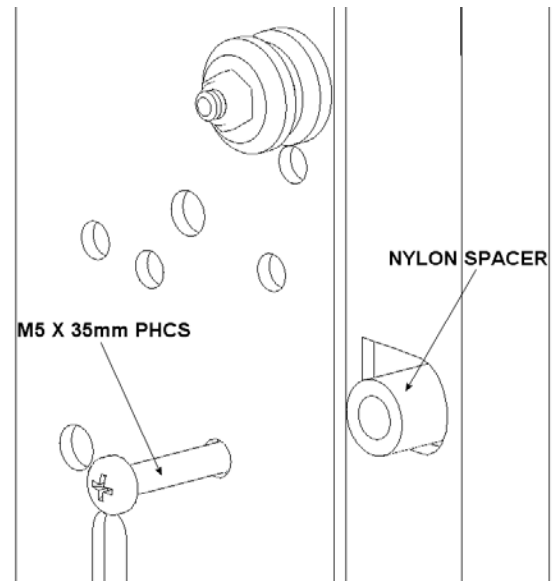
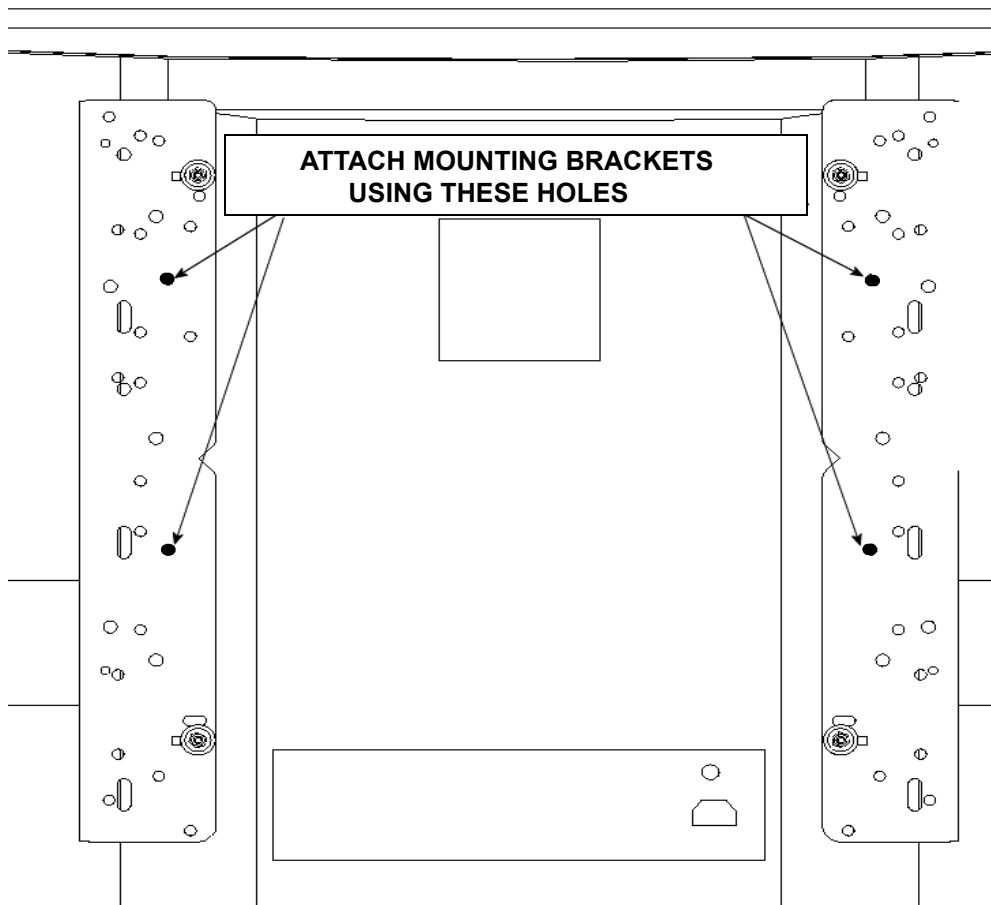

Figure 28. Spacer Installation for Group 9
Figure 29. Bracket Attachment for Group 9
3. Place the Nylon spacers over the four mounting holes on your Large Flat Panel display (see Figure 28).
4. Place the interface brackets over the Nylon spacers (see Figure 28 and Figure 29).
6. Using the hardware from the parts bag labeled E, attach the interface brackets to your Large Flat Panel display (Figure 28 and Figure 29). Do not overtighten the mounting screws.